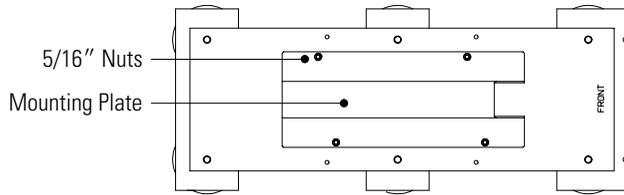

Figure 1. Seismic Installation Mounting Plate
2. If you are using only one EBC and want increased stability or a seismic installation, remove the mounting plates from the pallets (see Figure 1). Otherwise, skip to Step 6 on page 7.